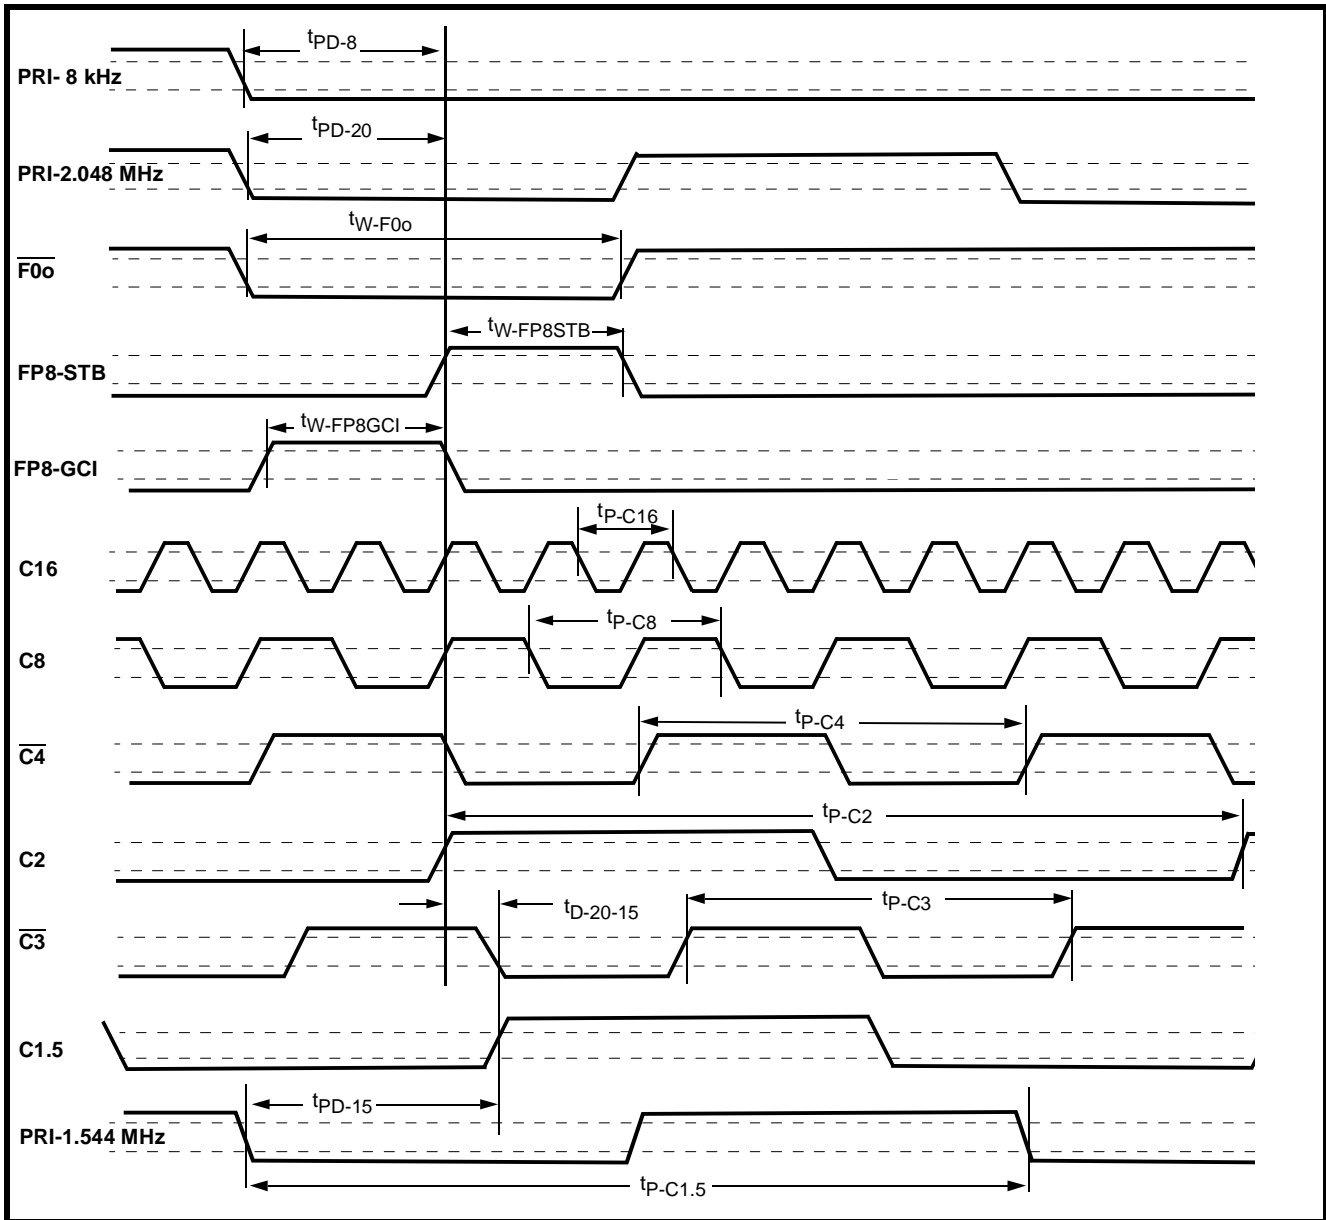

Figure 6 - Timing Information for MT9041
**AC Electrical Characteristics (see Fig. 6)†**-Voltages are with respect to ground ( $V_{SS}$ ) unless otherwise stated.